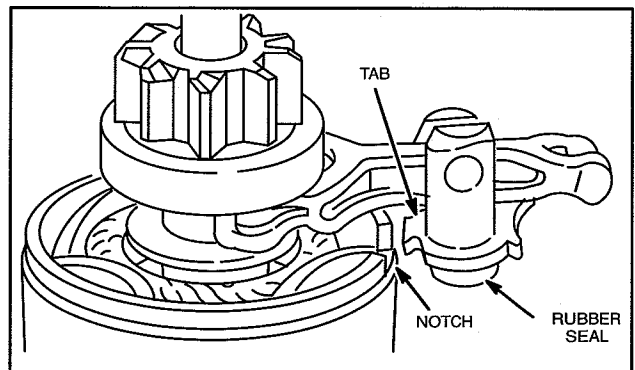

Fig. 58 – Installing Drive Lever
6. Align tab on drive lever with notch in housing, Fig. 58.